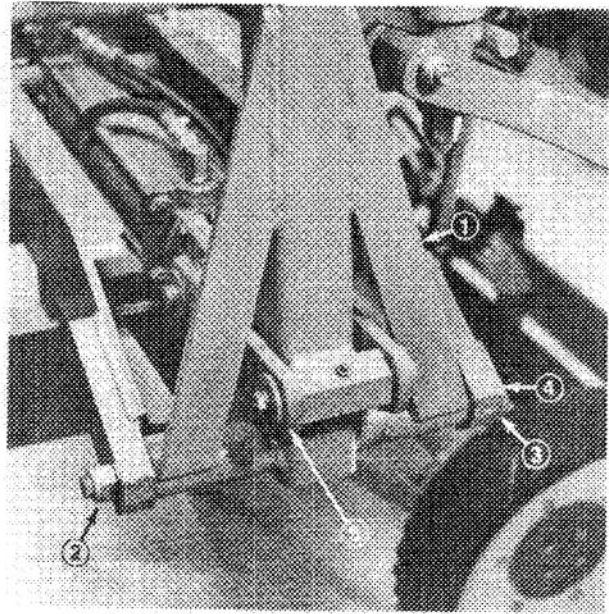

Figure 36
3. Remove nut from end of pin (Fig. 36).